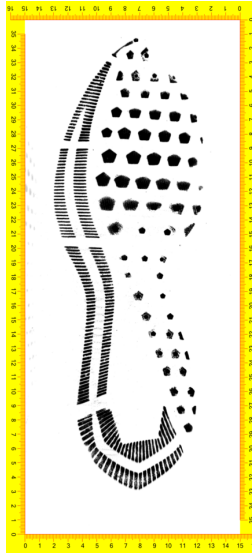

Figure 7: Sample of the first step 2D scan
10. Save the image (Figure 7) as a tiff file. Use the tool created by IT to generate a name for the image using the key on the backside of the cover of this manual. Repeat this procedure for the "detailed image" twice for each shoe.